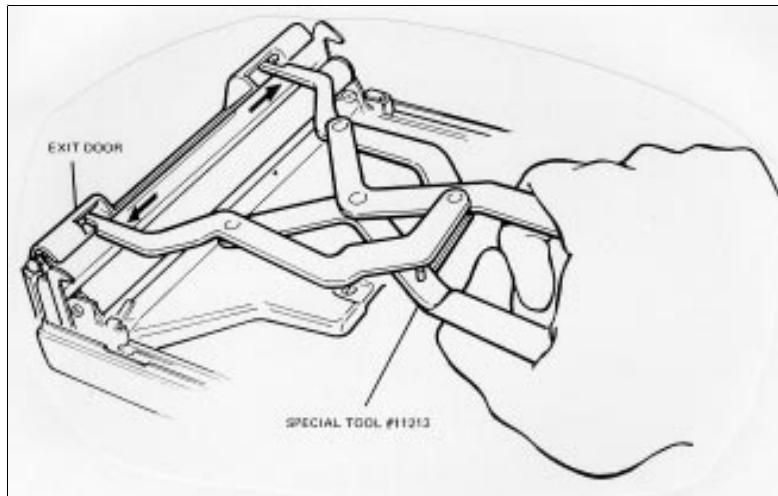

Figure 5-22. Removing Exit Door Pivot Pins
- 2) Using exit door remover/inserter tool #11213, pry out friction-held door pivot pins (figure 5-22) and remove the door.